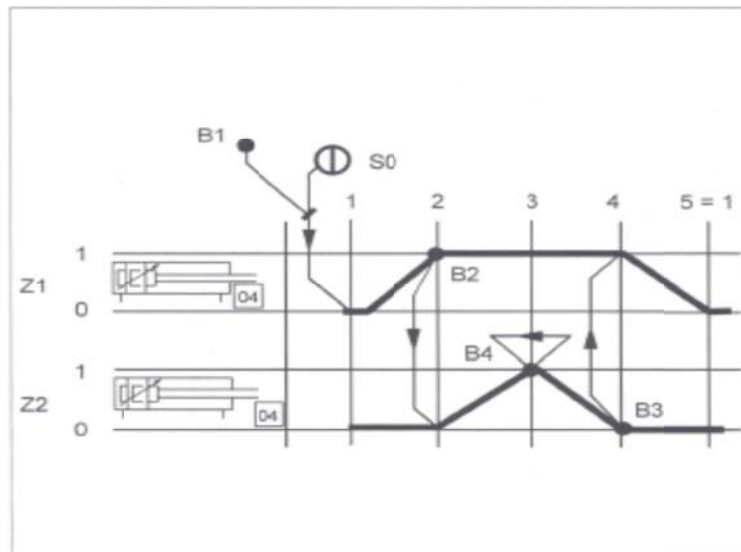

Figure 6.2: Function diagram (stroke-time diagram)
- Build your design (Pneumatic circuit diagram and Electric circuit diagram) to complete the task description in function diagram in Figure 6.2 , **Using 5/2 directional control electrically controlled .**
- Build your design (Pneumatic circuit diagram and Electric circuit diagram) to complete the task description in function diagram in Figure 6.2 , **Using one 5/2 directional control electrically controlled with spring return and one double 5/2 directional control electrically controlled.**
- Build your design (Pneumatic circuit diagram and Electric circuit diagram) to complete the task description in function diagram in Figure 6.2 , **Using two 5/2 directional control electrically controlled with spring .**